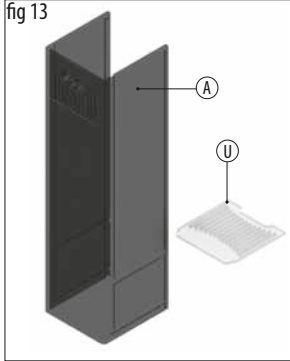

fig 14
- Fig.14 Insert the separation for the intake chamber (B) in the slot closest to the front part of the skimmer (Hydor logo) to a complete stop touching the grid.